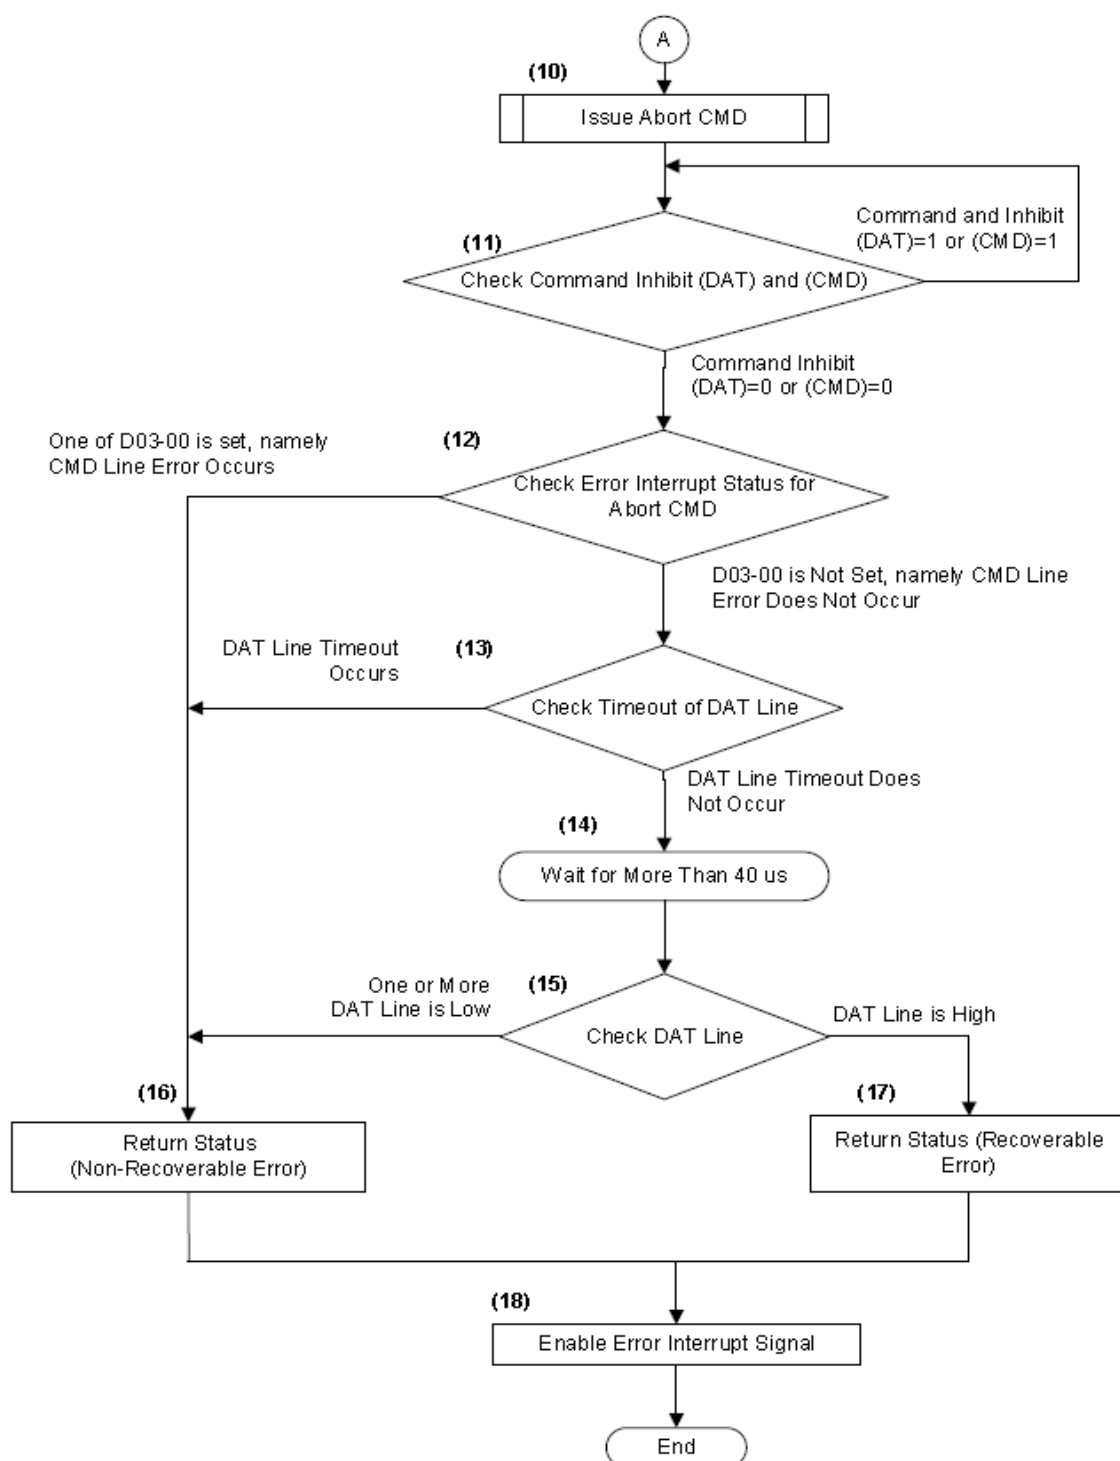

Figure 35-35 Error Recovery in SD/eMMC Mode
- It is recommended to issue abort command in step 10 synchronously (in Figure 35-35), when DMA is